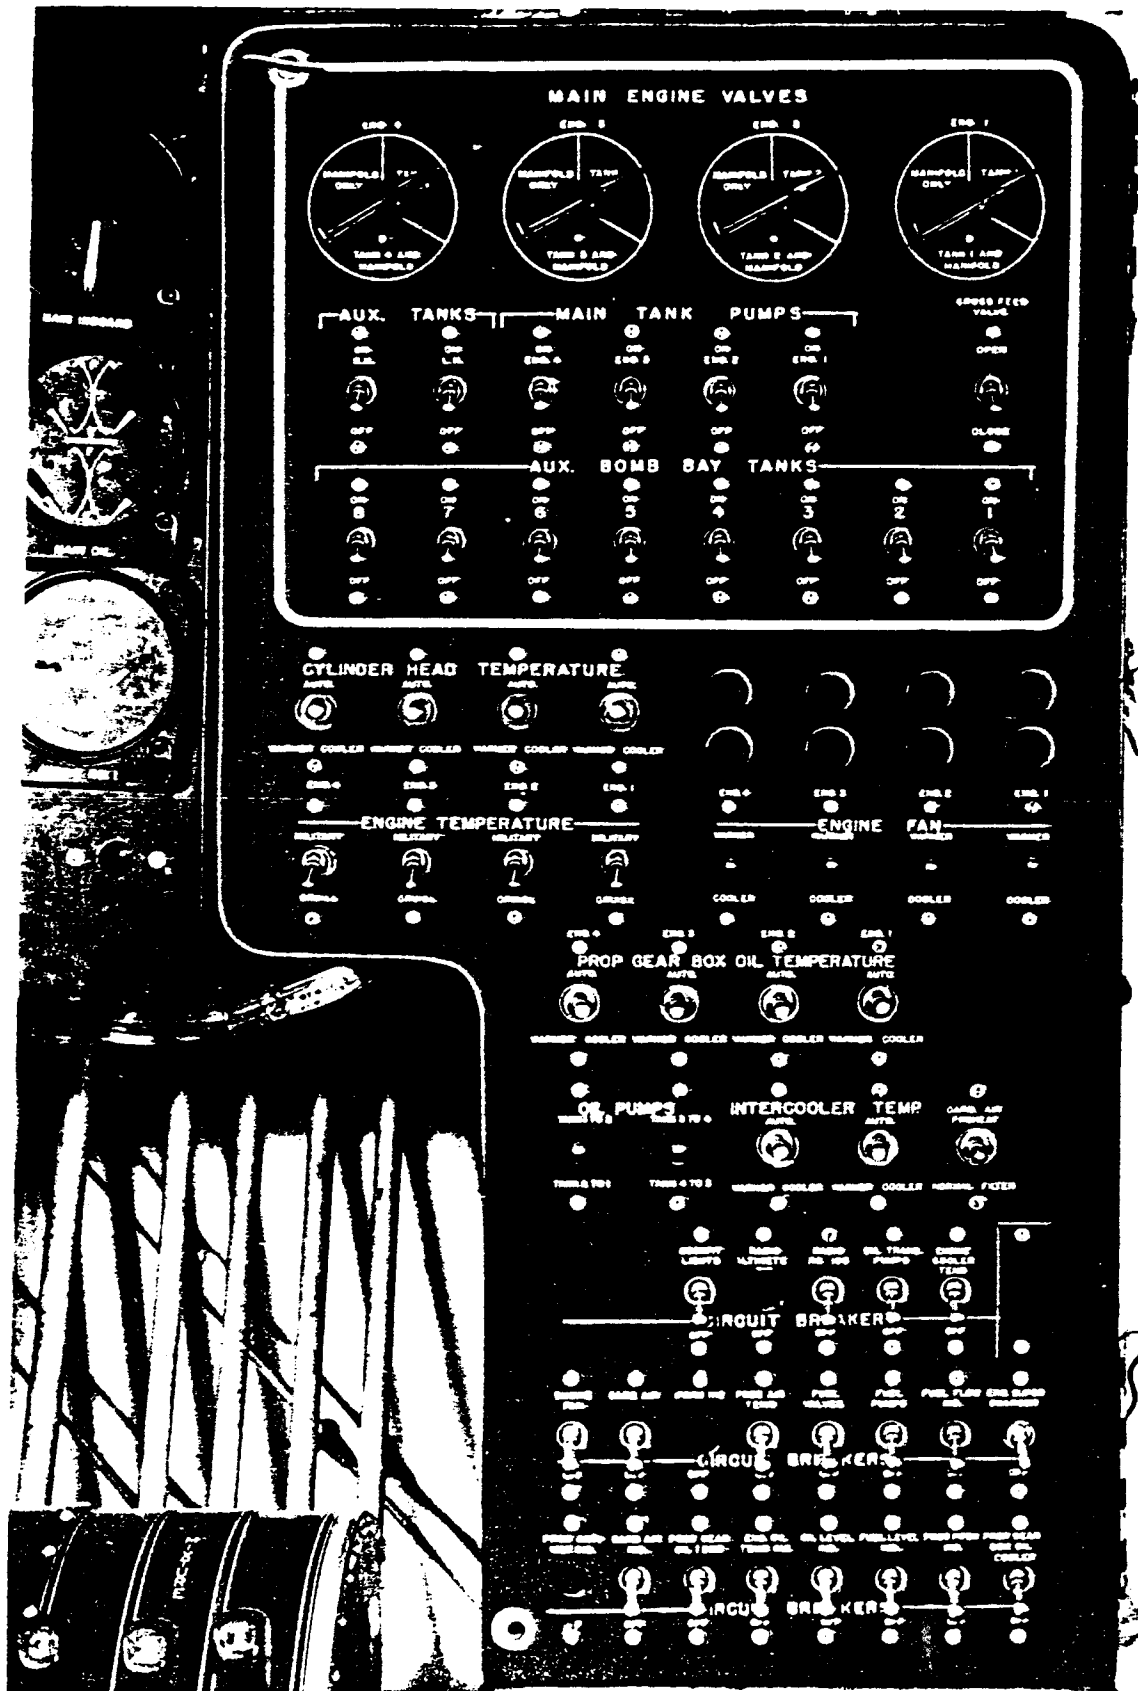
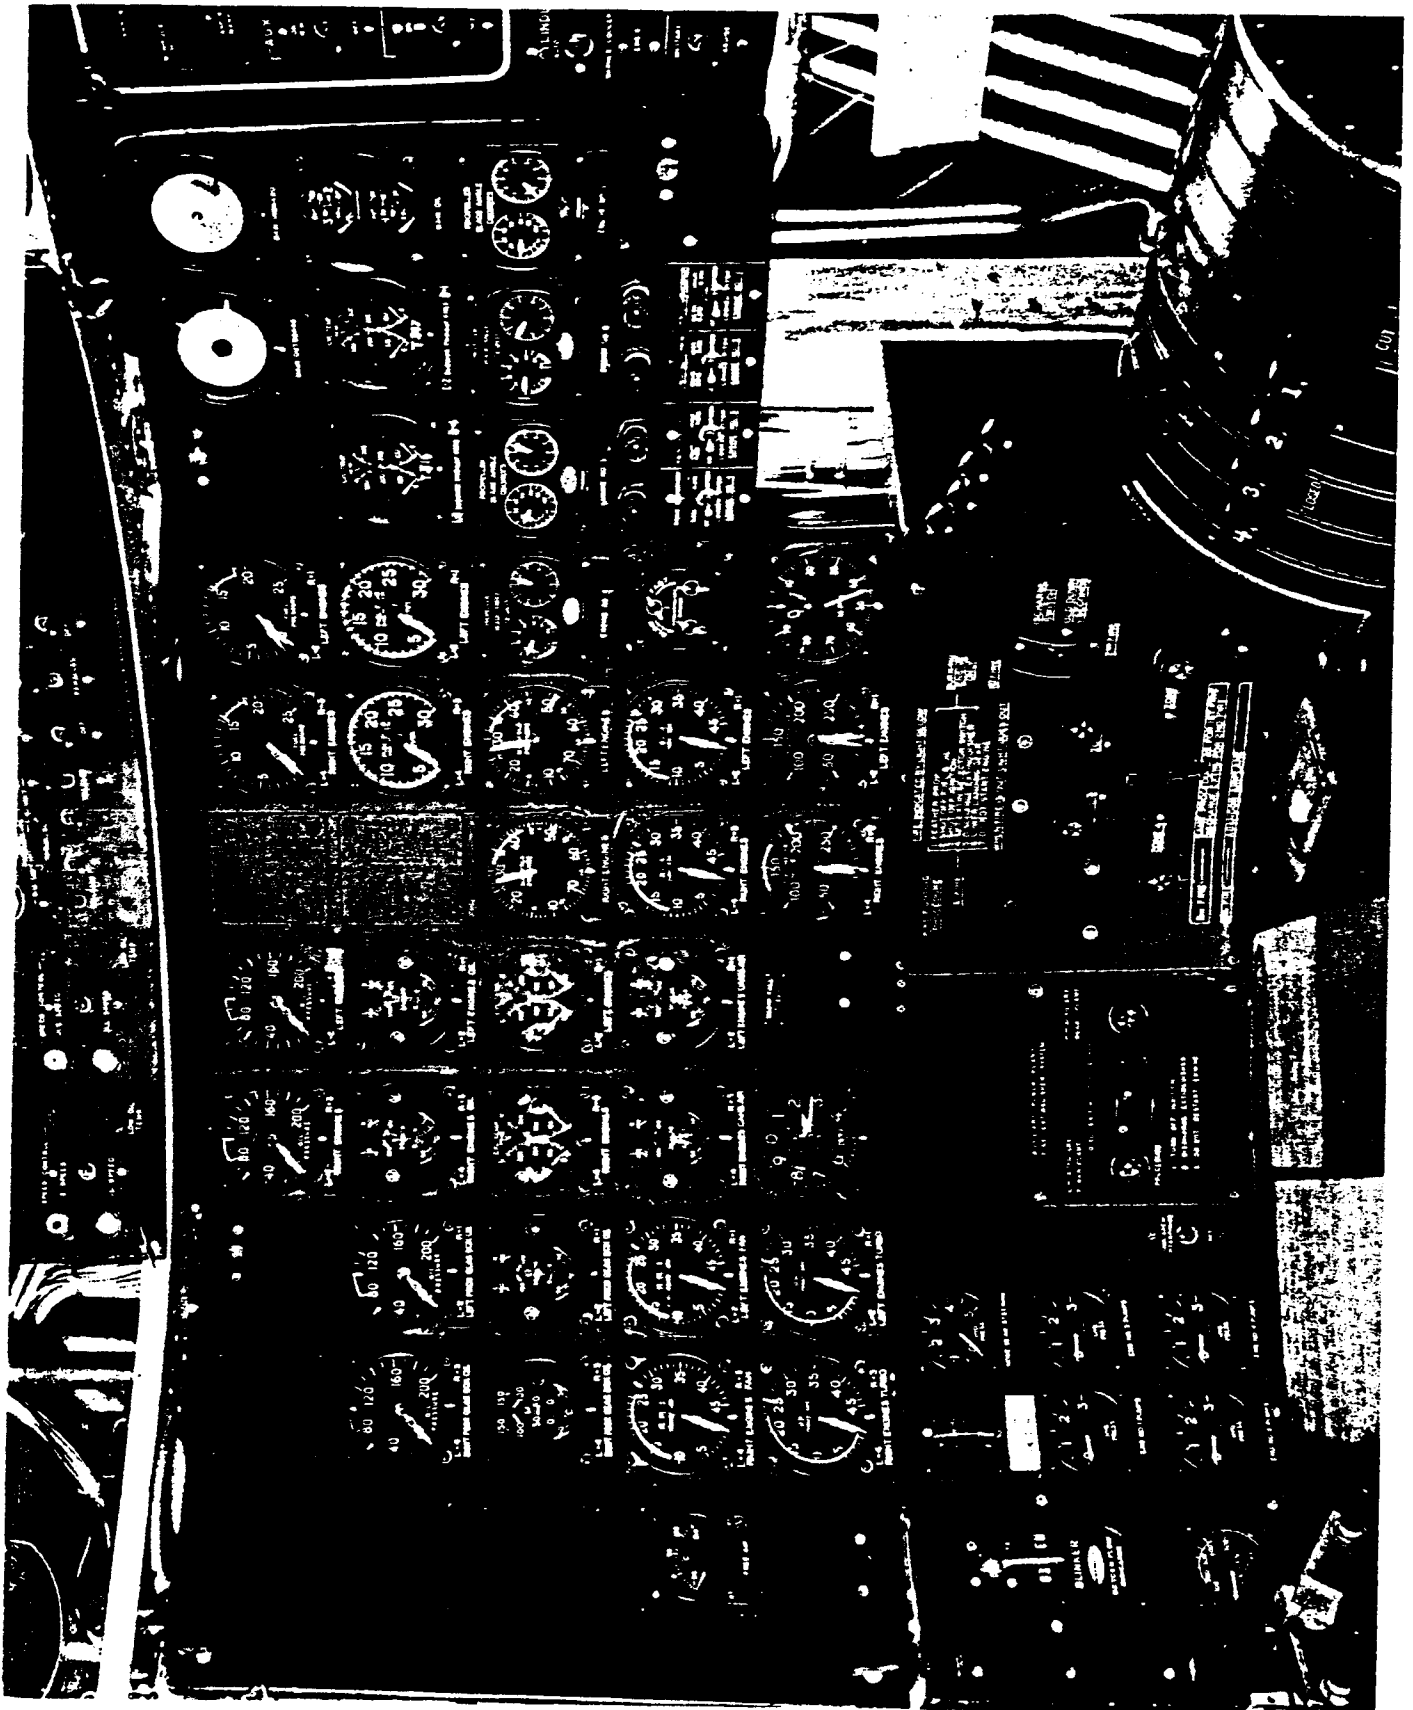

Figure 16. Engineer's Lower Electrical Control Panel
Figure 18. Engineer's Instrument Panel
1. FUEL LEVEL INDICATORS.- Two dual indicating type fuel level indicators are located on the engineer's instrument panel. One indicator is used for both outboard fuel tanks and the other indicator is used for both inboard tanks. (See figure 18.)
d. MAIN ENGINE VALVES.- Fuel is directed to the engines through a series of motor-controlled valves which are operated by the MAIN ENGINE VALVE switches. (See figure 16.) The "TANK #___ ONLY" position connects an engine to its main tank only. "TANK AND MANIFOLD" position connects the tank and its engine to the manifold line. "MANIFOLD ONLY" position of a switch connects its respective engine to the manifold and shuts off its main tank.
e. MAIN TANK PUMP SWITCHES.- These switches located on the engineer's lower electrical panel (See figure 16) have "ON" and "OFF" positions to control the single speed tank pumps.
g. CROSS FEED VALVE SWITCH. (See figure 16.)- This switch, having "OPEN" and "CLOSE" positions, controls valves in the manifold line. When the switch is in the "OPEN" position, fuel is allowed to flow through the manifold line, so that an engine or engines may be operated with fuel supplied by a tank on the opposite side of the airplane.
h. FUEL FLOW INDICATOR.- Two fuel flow indicators of the dual indicating type are located on the engineer's instrument panel. (See figure 18.)
a. TRANSFER SWITCHES.- Two oil transfer switches are located on the engineer's lower electrical control panel. (See figure 16.) One switch is for the two left-hand tanks and the other for the right-hand tanks. One position of a switch transfers oil in one direction and in the other position the direction of transfer is reversed.
e. PROPELLER CONTROLS. (See figures 18 and 25.)- A master propeller control, engineer's disconnect switch, feathering controls, and pitch reversing switches are located on the pilot's pedestal. The pilot can control the rpm settings of all four propellers with the master control. The master propeller control must be moved to the "INC.RPM" or "DEC.RPM" position until the desired rpm is reached. The engineer is provided with individual controls for each propeller consisting of; a
h. CARBURETOR AIR CONTROL SWITCH.- A single three-position switch, see figure 16, is used
i. ENGINE FAN SWITCHES.- The engine fan switches, figure 16, have two momentary positions, "WARMER" and "COOLER." The center position is off. Two dual indicating fan speed tachometers are located on the engineer's instrument panel. (See figure 18.) Holding a switch to the "WARMER" or "COOLER" position decreases or increases the fan speed respectively. Approximately 6 seconds are required to change the fan speed from one extreme to the other.
j. CYLINDER HEAD TEMPERATURE CONTROL SWITCHES.- These switches, figure 16, control the opening and closing of cooling flaps installed in the trailing edge of the wing. The switches have three positions including an "AUTOMATIC" position. The "AUTOMATIC" position is not used. Cylinder head temperatures must be manually controlled by holding the switches to the "WARMER" or "COOLER" position momentarily and then returning them to the center (off) position. The length of time for holding a switch to
l. INTERCOOLER TEMPERATURE CONTROL SWITCHES. These two switches, one controlling the intercooler temperature for the two left engines and the other the two right engines, are located on the engineer's lower control panel. (See figure 16.) The switches have an "AUTOMATIC" position, momentary "OPEN" and "CLOSE" positions, and a center off position. Intercooler temperature is manually controlled by holding a switch to the "OPEN" or "CLOSE" position for an estimated length of time according to the amount of temperature change desired and then returning the switch to the center position. Operating time from one extreme to the other is approximately 38 seconds.
50. BLOWER THROAT FIRE EXTINGUISHER.- A special fitting is provided in the airplane, among the stowed items, to replace the conventional nozzle on a 50# Co₂ fire extinguisher bottle. The ground crew must attach this fitting to an extinguisher, ready for use before starting the engines. The fitting attaches to connections (two in each main gear wheel well) which lead directly to the blower section of each engine. A sudden rise in temperature, shown by the blower throat temperature indicators, figure 18, indicates a fire. The Co₂ charge may be released directly to the affected blower section by the ground crew.